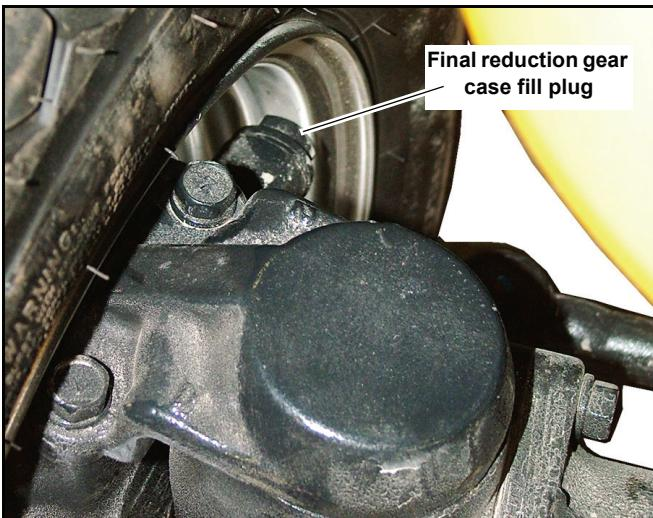

Figure 4-29
- b. Oil supply plugs are located on the front side of the right and left final reduction gear case. Remove the plugs. Figure 4-29